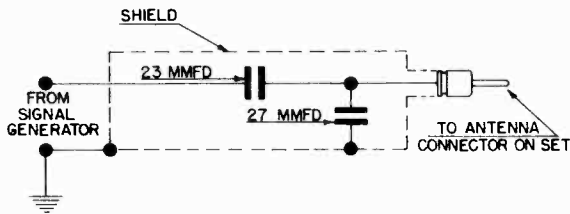

Fig. 8 Dummy Antenna
Figure 8 shows the schematic of a recommended dummy antenna, closely resembling actual antenna capacity, to be used in series with signal generator leads when aligning the R.F. section of the receiver.
1. Connect signal generator leads through dummy, illustrated in Fig. 8, to antenna lead in socket on receiver. This is important.
2. Connect signal generator leads through dummy, illustrated in Fig. 8, to antenna receptacle on the receiver.